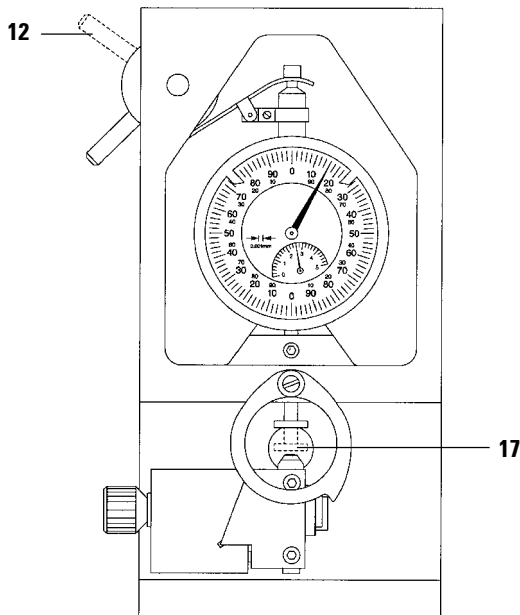

Fig. 5.11
5. With lever (12), bring contact plate (17) close to the miller (turn lever backwards) so that only a small gap remains (see **Fig. 5.11**).